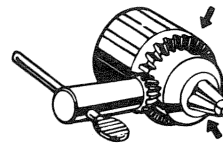

FIG. 3
2. Use all three holes in the chuck body to tighten the jaws (Fig. 3). Insert the chuck key into each hole and tighten as much as possible. To release the drill bit, use the chuck key in only one hole.